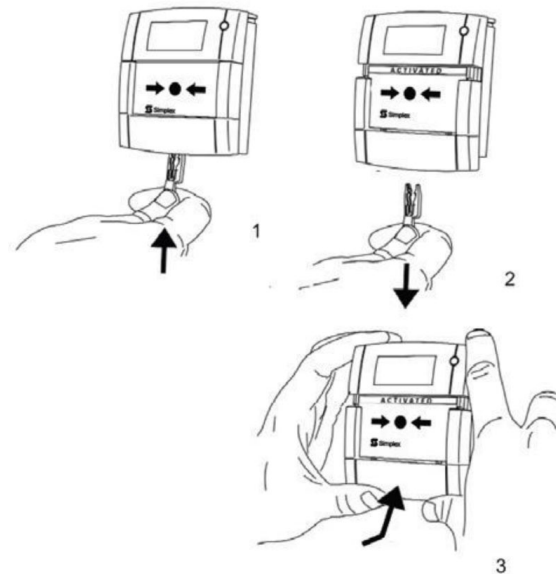

Figure 2: Callpoint Testing
**Callpoint testing** occurs by inserting the key fully into the bottom of the housing and pulling down. This releases the bottom of the housing and break glass element. To reset the callpoint, push the bottom of the housing upwards until it locks in position. (See Figure 2)